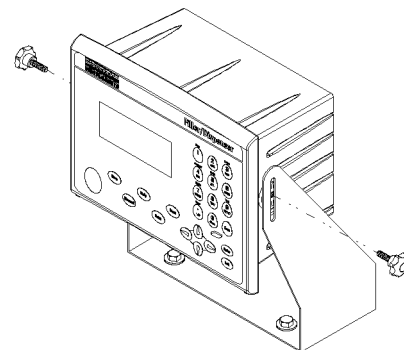

FIG. 4 FILLER/DISPENSER INSTALLING IN A SWIVEL MOUNT
- Step 2. Place the Filler/Dispenser between the Swivel Mount brackets so that the threaded holes in the instrument are aligned with the slots in the Swivel bracket. (See Fig.4)